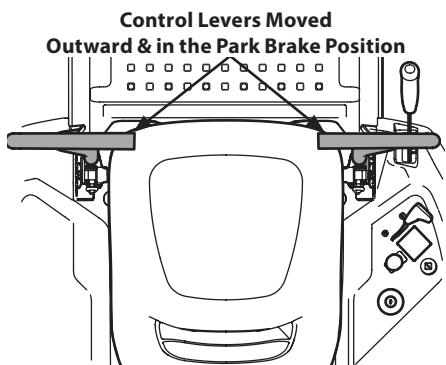

Figure 21
- Operator should be sitting in the tractor seat with the lapbar drive control levers fully out and in the park position. See Figure 21. Refer to Practice Operation for further instructions.